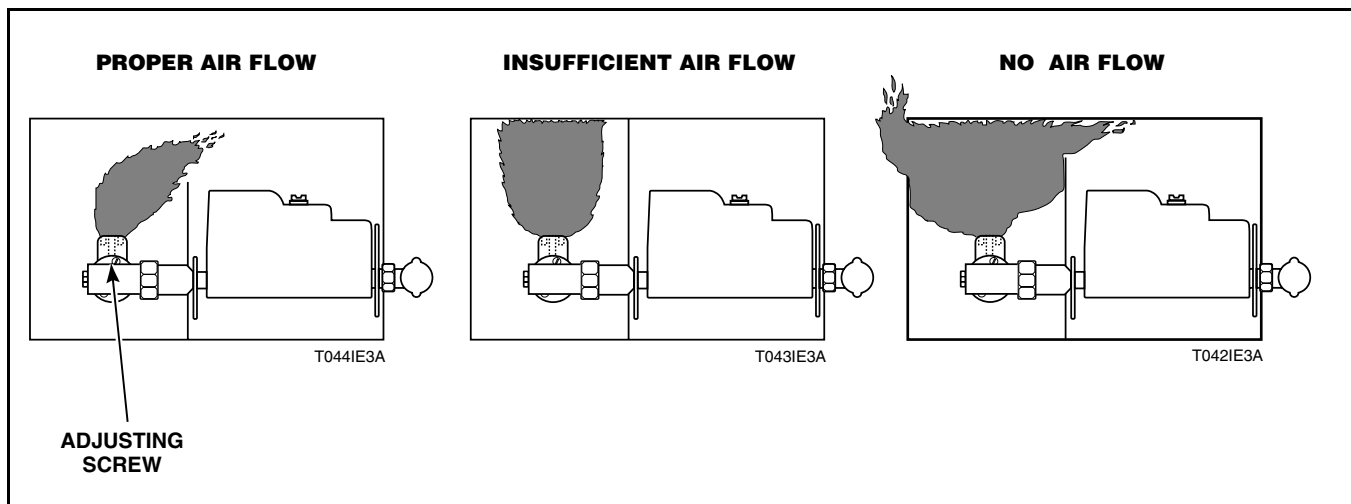

Figure 39
- Start the tumbler and check the flame pattern. Correct air and gas mixture is indicated if the flame pattern is primarily blue, with small yellow tips, and bends to the right of the heater section. Refer to *Figure 39*. Too little air is indicated if the flame is yellow, lazy and smoky.
- To adjust the air shutter, loosen air inlet shutter adjusting screw. Refer to *Figure 39*. Control panel may have to be removed temporarily to loosen air shutter screw to turn shutter.
- If the shutter is correctly adjusted, but the flame pattern is straight up, refer to *Figure 39*, insufficient air is flowing through the tumbler and airflow switch is improperly set. A flame pattern that flares to the right and left, refer to *Figure 39*, indicates that no air is flowing through the tumbler.